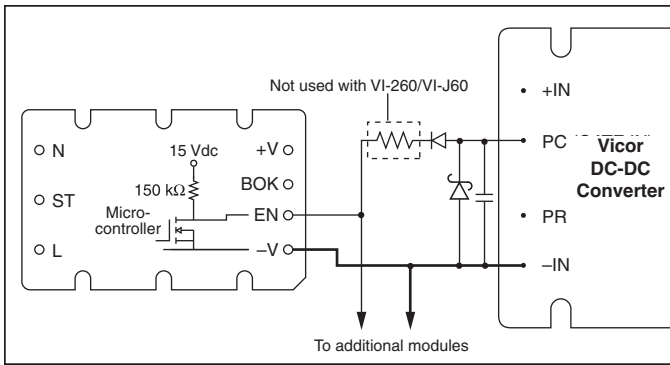

Figure 11 — Enable (EN) function; See Fig. 8 for details
**Enable (EN) Pin.** (See Fig. 11). The Enable pin must be connected to the Gate-In or PC pin of all converter modules to disable the converters during power-up. Otherwise, the